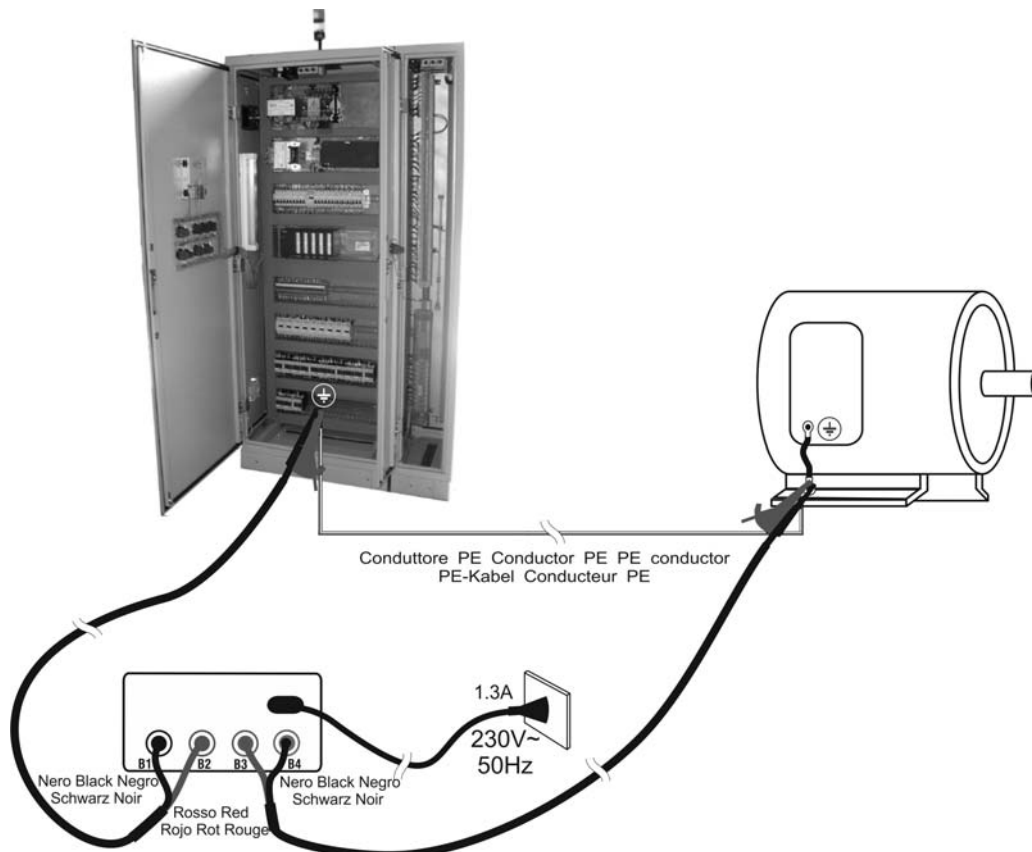

Fig. 6: Instrument connection for LOW $\Omega$ 10AE204 test
4. Connect the connectors of the measuring cables C7000 provided to the instrument's input terminals **B1** (Black), **B2** (Red), **B3** (Red), **B4** (Black) and the alligator clips to the item to be tested as indicated in Fig. 6